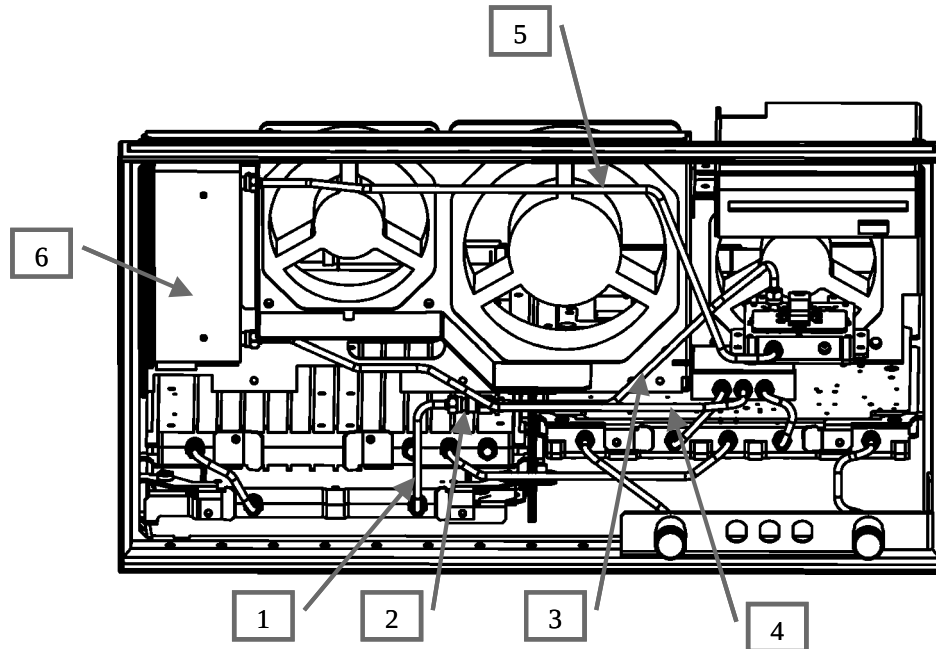

Figure 4 Front View (Semirigid Cables Opt. 213, 214 after modification)
9. Connect uW attenuator 0955-0208 (No 2 in Figure4) and A4 with E5070-61672 semi-rigid cable (No 3 in Figure 4)
10. Connect A4 and A7 ATT with E5070-61633 semi-rigid cable (No 5 in Figure 4)
11. Connect A7 ATT and A8 with E5070-61634 semi-rigid cable (No 4 in Figure 4)
14. Connect A3 and 0955-0208 (No 2 in Figure 4, see below) attenuator with E5070-61671 (No 1 in Figure 4) semi-rigid cable
15. Connect 0955-0208 (No 2 in Figure 4) and A4 with E5070-61672 (No 3 in figure 4) semi-rigid cable
16. Connect A4 and ATT with E5070-61633 (No 5 in Figure 4) semi-rigid cable
17. Connect ATT and A8 with E5070-61634 (No 4 in Figure 4) semi-rigid cable
Copy of Figure 4 in page 5